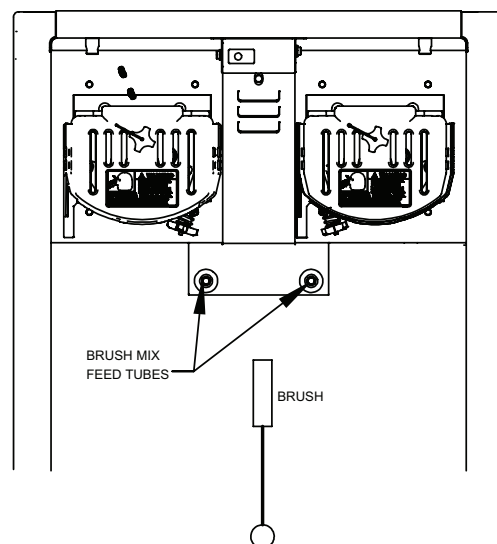
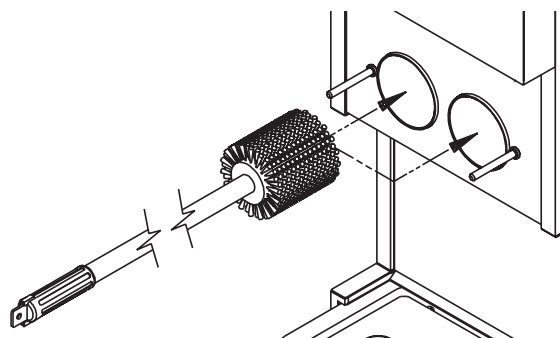
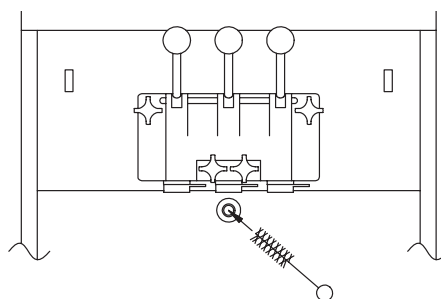

Figure 7-9 Brush inside of cylinder mix feed tubes
Figure 7-10 Brush inside of cylinder
Figure 7-11 Brush inside of drain tube
4. Using a warm dish detergent solution thoroughly brush; the mix feed tubes from the refrigerated cabinet to the cylinders as shown in figure 7-9, the inside of the cylinders figure 7-10 including the back wall, and the inside of the drain tube, as shown in figure 7-11.